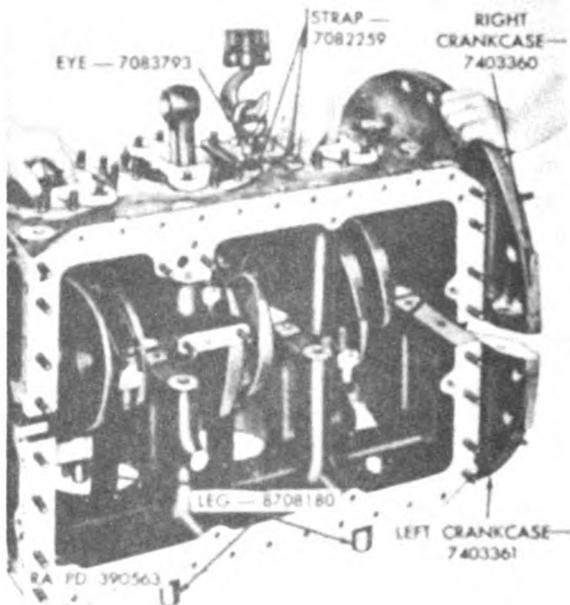

Figure 59. Separating or joining left and right crankcases.
59) on left crankcase; one leg on third stud above and one leg on third stud below dowel pin on accessory side of No. 2 cylinder mounting pad, and two legs on flywheel side of No. 6 cylinder mounting pad. With the aid of an assistant, roll crankcase assembly on left side so it is resting on the support legs, as shown in figure 59.
- (5) Remove remaining crankcase flange and crankcase fan drive housing hex self-locking nuts or hex stamped nuts and hex nuts, plain washers, and bolts.
- (6) Attach crankcase lifting eye 7083793 (fig. 59) to cylinder mounting studs over thru bolt straps on right crankcase with  $\frac{7}{16}$ -inch hex nuts. Lift right crankcase half from left crankcase using a hoist as shown in figure 59. Set right crankcase half on wooden blocks. Remove hex nuts securing lifting eye to crankcase and remove eye and straps.
- (7) Lift out fan drive vertical shaft drive gear bearing. Remove fan drive verti-